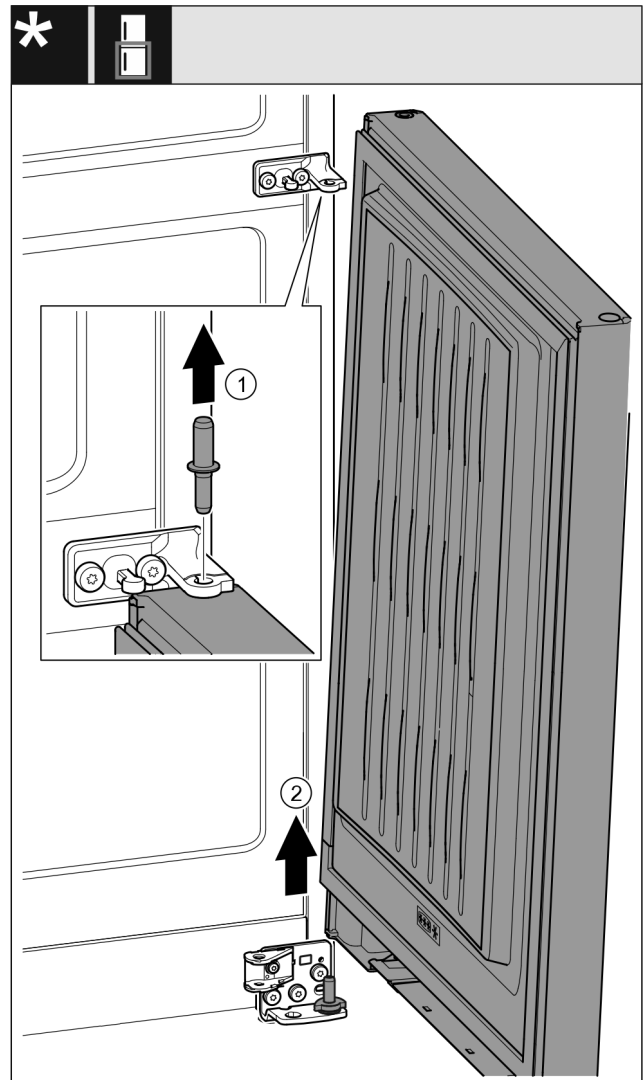

Fig. 27 With closing damper\*
- ▶ Pull out the pin Fig. 27 (1) upward.\*
- ▶ Swivel out the door Fig. 27 (2), pull it upward, and set it aside.\*